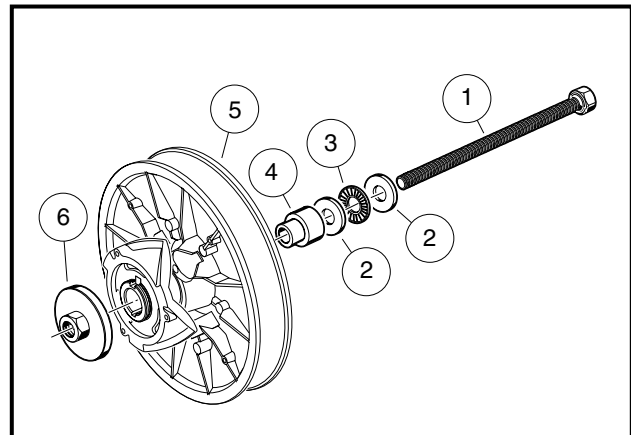

Figure 17-20 Cam Installation Tool
NOTE: This process is for field or remote assembly requirements where hydraulic and pneumatic press equipment is not available. Use the Cam Installation Tool (CCI P/N 101808401) for this process (Figure 17-20, Page 17-17).
- 5.2.1. With the clutch loosely assembled, set the edge of the clutch body (5) on a clean, flat surface (Figure 17-20, Page 17-17).
- 5.2.3. Slide the bolt (1) through the clutch body (5) until the threaded bolt, washers, bearing, and hub guide are against the fixed face hub (Figure 17-20, Page 17-17).